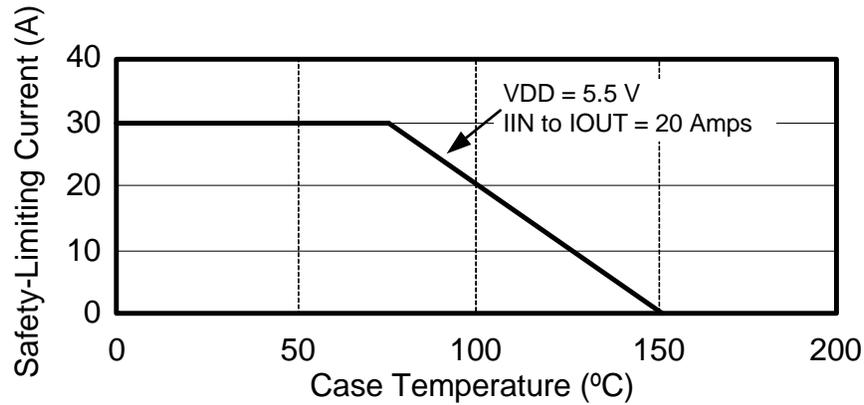

Figure 1. SOIC-20 Thermal Derating Curve, Dependence of Safety Limiting Values with Case Temperature per DIN EN 60747-5-2
- Maximum value allowed in the event of a failure. Refer to the thermal derating curve in Figure 1.